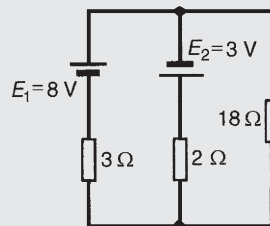

Figure 13.21
**Problem 6.** For the circuit shown in Fig. 13.21, find, using the superposition theorem, (a) the current flowing in and the p.d. across the  $18\Omega$  resistor, (b) the current in the  $8\text{ V}$  battery and (c) the current in the  $3\text{ V}$  battery.